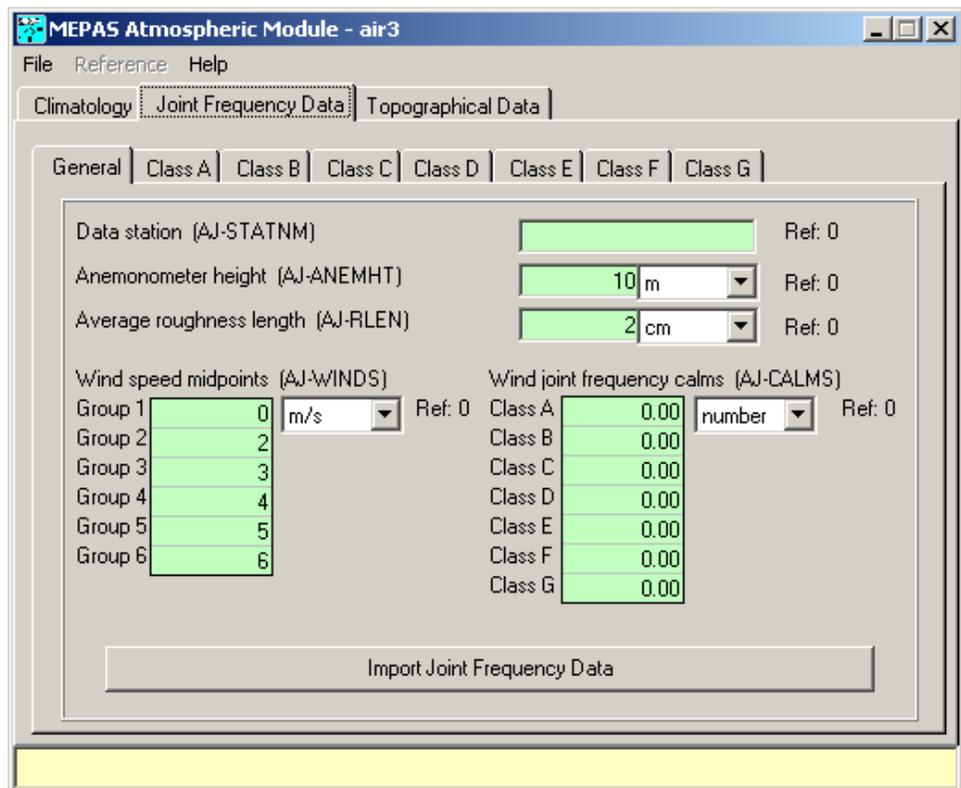
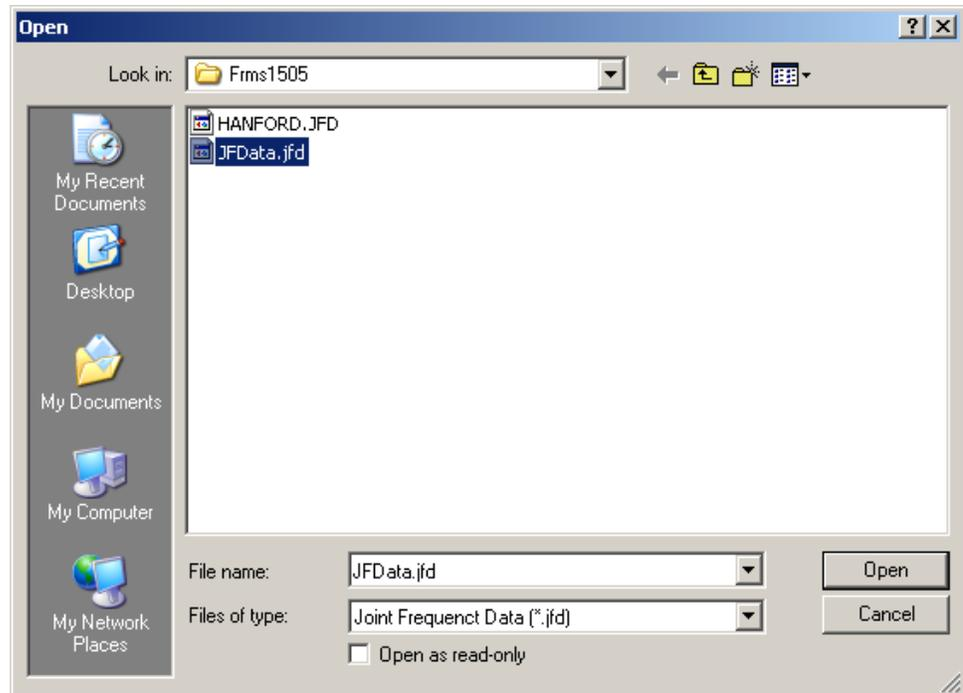

Figure 24. Mepas Atmospheric Module – Joint Frequency Data tab
Figure 25. Selection of a Joint Frequency Data File for Importing
- The second tab is the “Joint Frequency Data” tab shown in Figure 24. This tab will be used to input data pertaining to the relative frequencies of various wind conditions for the area surrounding the current site. There are eight tabs under the Joint Frequency Data section. The tab labeled “General” is used to enter general information pertaining to the frequency data. The other seven tabs labeled “Class A” through “Class G” contain tables for entering information about each of these wind stability classes. Wind frequency data can be obtained through the STAR PROGRAM summaries from the National Climatic Data Center (NCDC) in Asheville, North Carolina, which is operated by the National Oceanic and Atmospheric Administration (NOAA's) Environmental Data Service. A file containing frequency data will be imported and used to fill the tables in this example. Click the button labeled “Import Joint Frequency Data” at the bottom of the “General” tab. Select the file titled
“JFData.jfd” from the FRAMES directory as shown in Figure 25 and select “OK.” The data for the “Wind joint frequency calms” section on the “General” tab will be filled in along with the tables for the wind stability classes on the remaining tabs. Enter the additional data given below on the “General” tab as shown in Figure 24.